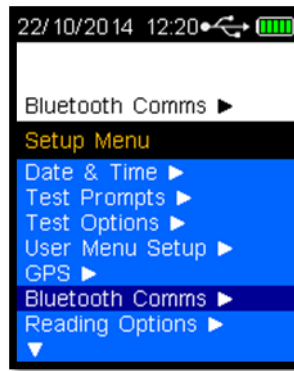

Figure 80 Bluetooth Comms
- Press the Down button until Bluetooth Comms is highlighted (Refer Figure 80).